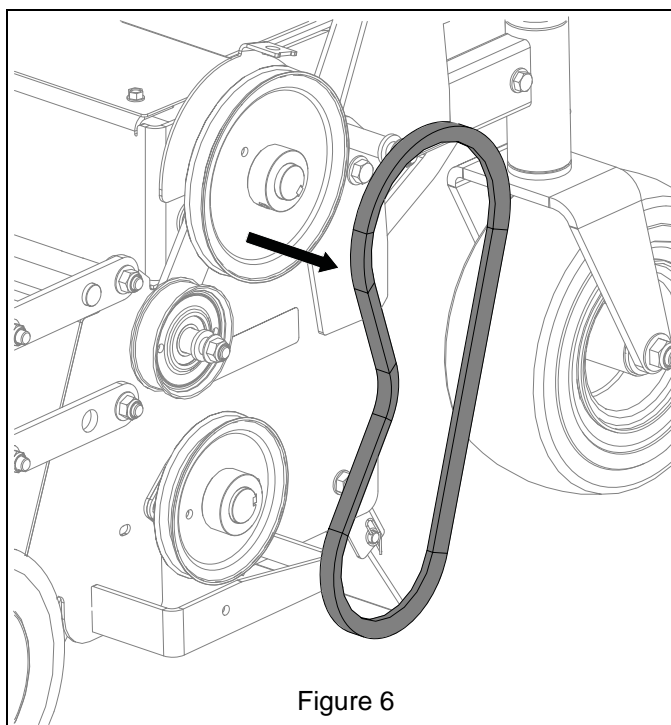

Figure 6
7. Remove and retain belt. See Figure 6.